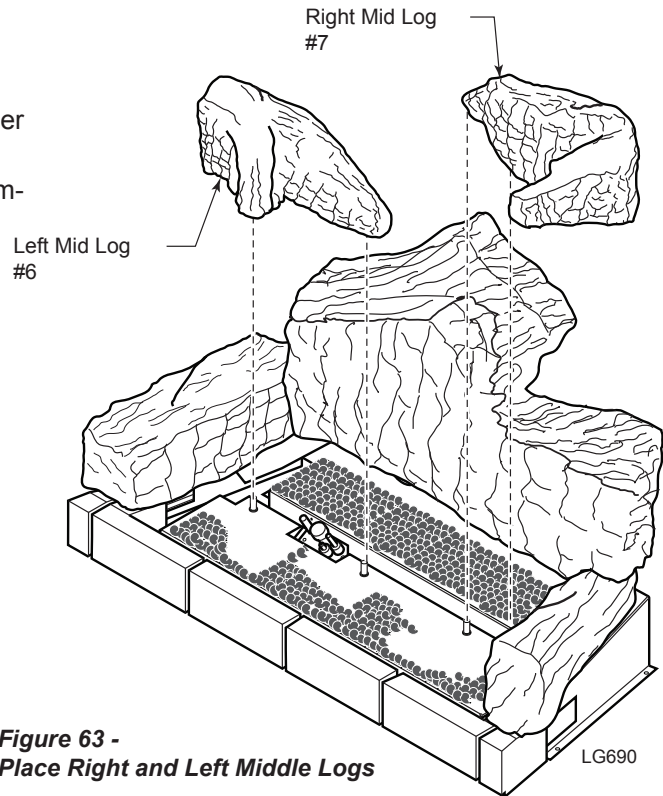

Figure 63 - Place Right and Left Middle Logs
7. Place right mid log (#7) on two right pins on burner assembly. *Figure 63*
8. Place left mid log (#6) on two left pins on burner assembly. *Figure 63*